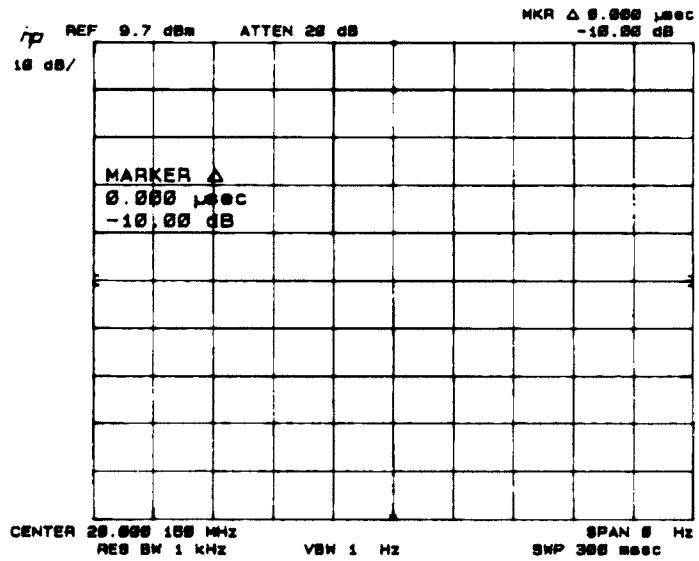

Figure 2-12. Amplitude Fidelity Measurement
6. Press **MARKER** **Δ**. Step the frequency synthesizer output amplitude from +10 dBm to -80 dBm in 10 dB steps, noting the **MARKER Δ** amplitude (a negative value) at each step and recording it in column 2 of Table 2-12. Allow several sweeps after each step for the video filtered trace to reach its final amplitude. (See Figure 2-12.)